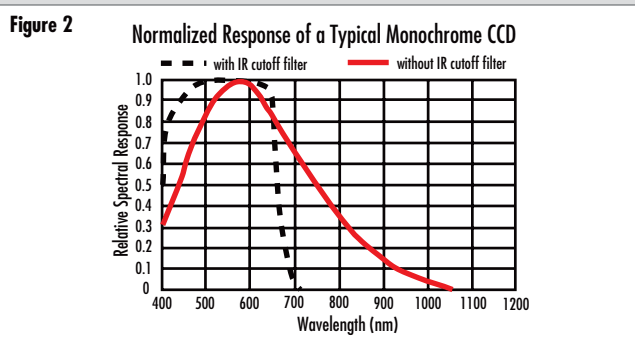

Figure 2: Normalized Spectral Response of a Typical Monochrome CCD.
CCD and CMOS sensors, being silicon devices, are sensitive to wavelengths from approximately 350 - 1050nm, although the usable range is usually given from 400 - 1000nm. This sensitivity is indicated by the sensor's spectral response curve (*Figure 2*). However, most high-quality color, and some monochrome, cameras provide an infrared (IR) cut-off filter for imaging specifically in the visible spectrum.